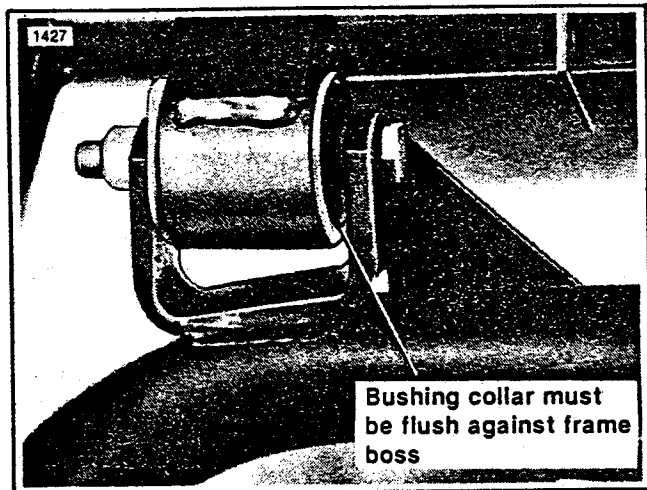

Figure 2-25. Rear Fork Bushing
2. See Figure 2-25. Check the rear fork bushing for wear and make sure the bushing collar is flush against the frame boss.